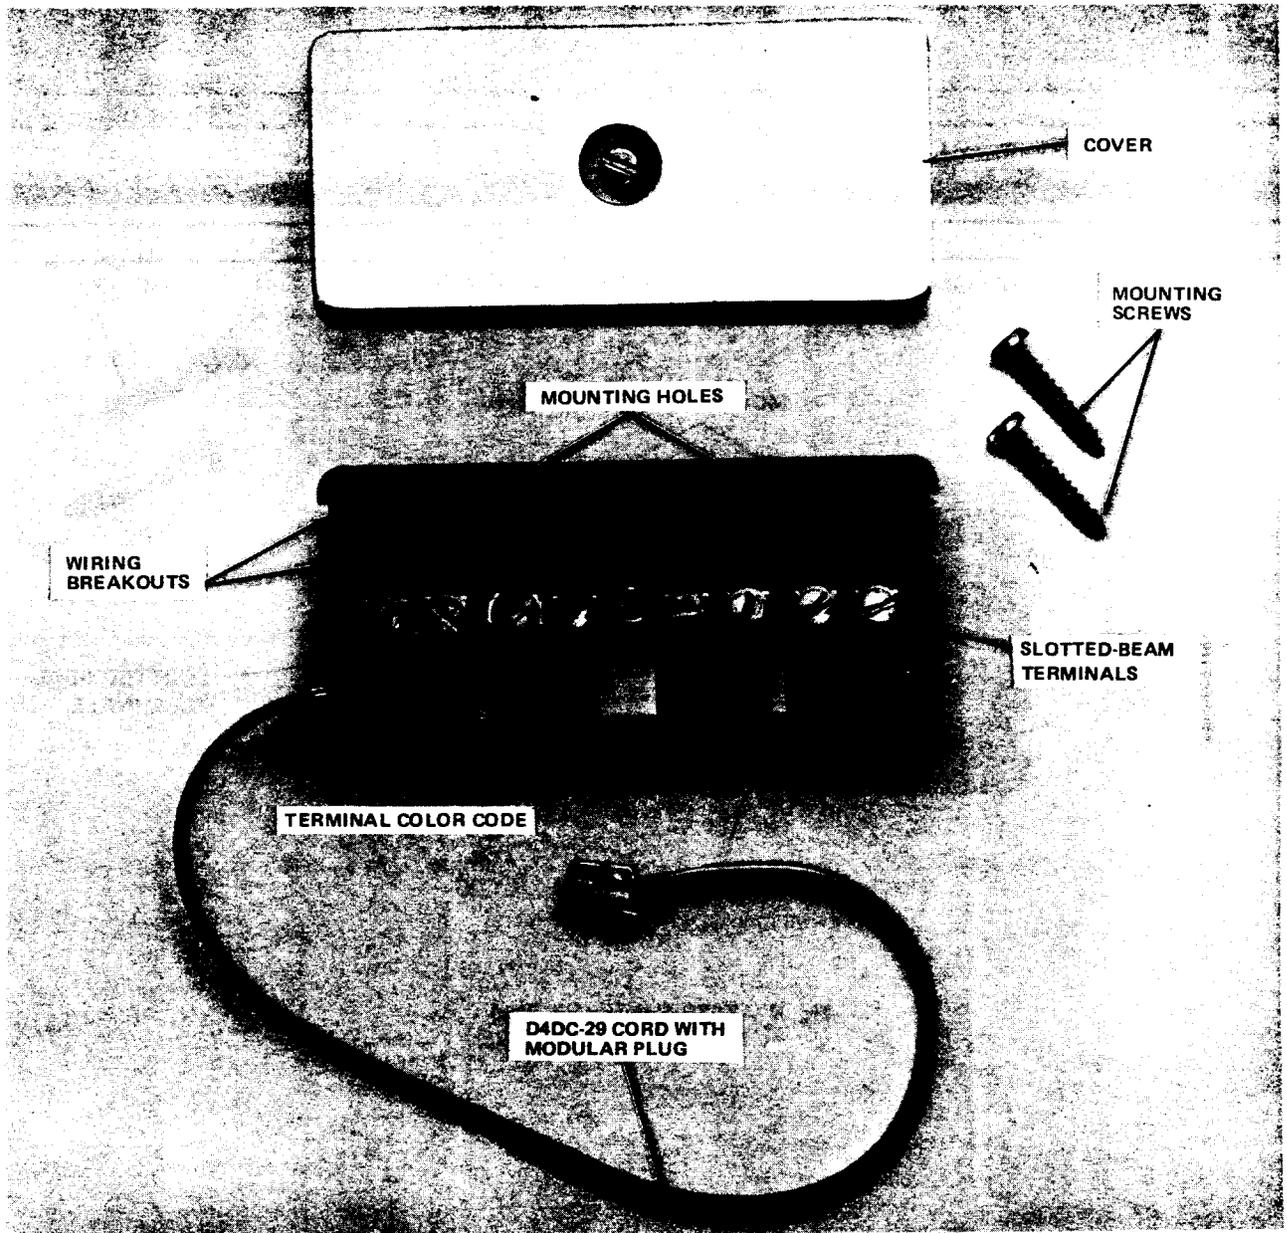

Fig. 8—742A Connecting Block
**D. 742A Connecting Block (Fig. 8)**